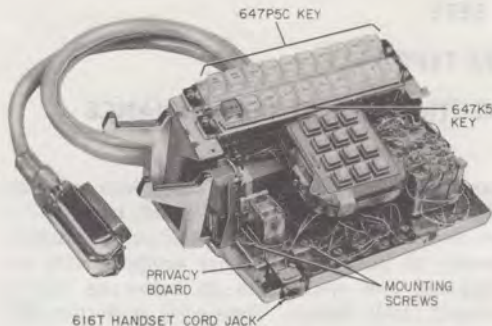

Fig. 2—2833BM Telephone Set Base
handset and H4DU-50 handset cord which will plug into a 616T jack mounted on the left front of the telephone set base (Fig. 2). Current production models of these sets also are equipped with an improved line switch and an automatic button restoral (ABR) feature. Some early production BM and CM sets were not so equipped.
**2.02** The 833B (MD), or 833BM, 833DM and 2833B (MD), or 2833BM, 2833DM telephone sets are equipped with a 647K5 key in the lower key position consisting of a hold button, six line buttons, and three intercom buttons. A 647P5C key is located in the upper key position consisting of a RECALL button, a Privacy Release (PRIV RLS) button, and eight line buttons. The privacy circuit board is factory installed and wired (Fig. 2).
- (1) Mount privacy circuit board on the two standoffs located at the left front of the telephone set base (Fig. 2) using mounting screws furnished with the telephone set.
- (2) Refer to Table C for connections.
- (3) To test privacy circuit refer to 3.06.